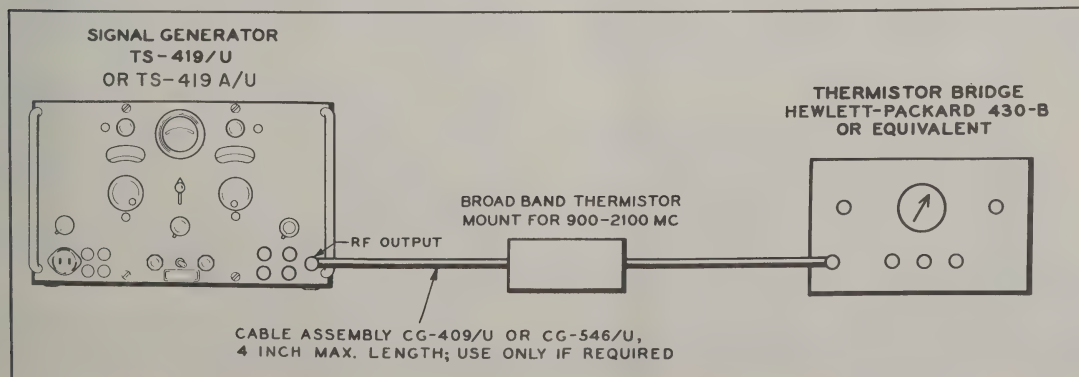

Figure 4-2. Test Connection Diagram for Measurement of R-F Power Output
(1) Make circuit connections to required test equipment as shown in figure 4-2.
(2) Check to be sure that the clockwise stop on the OUTPUT ATTENUATOR control is effective at a dial setting of 160 K.
(3) If necessary to reset OUTPUT ATTENUATOR stop, refer to paragraph 10.i.(4) (f) of this section.
(4) Turn on Signal Generator TS-419/U and Thermistor Bridge Hewlett Packard 430-B, or equivalent. Allow a 20-minute warm-up period to insure complete stabilization.
(5) Tune SIGNAL FREQUENCY control of Signal Generator TS-419/U to 1600 mc/sec.
(6) Set SELECTOR SWITCH to ZERO SET and adjust ZERO SET control until METER pointer is on line marked ZERO SET.